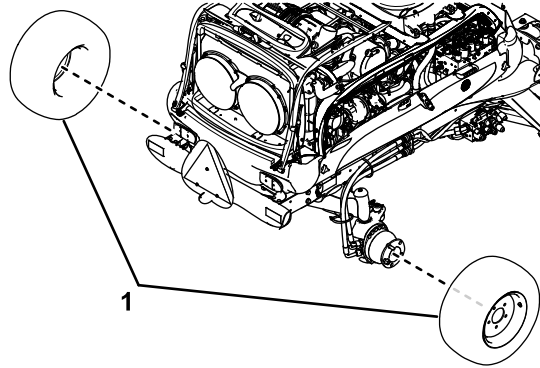

Figure 3
1. Remove the rear wheels (Figure 3).